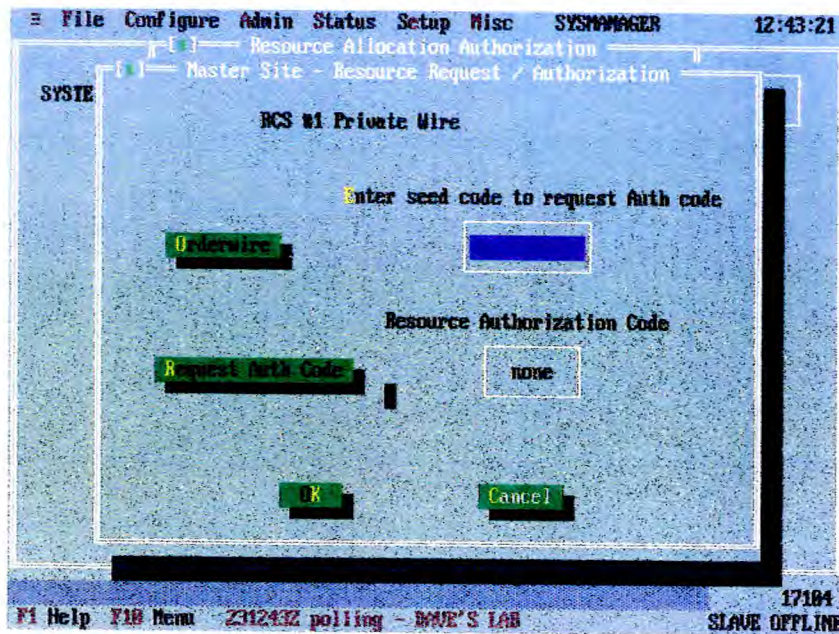
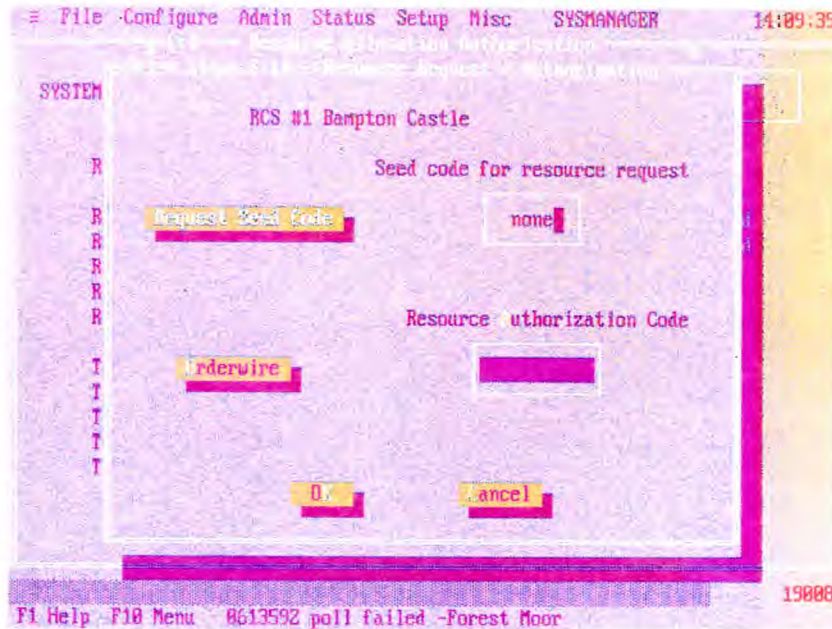

Fig 16
Fig 17
19 To reallocate a resource from Master to Slave involves the use of Orderwire communication and the "Resource Request/Authorization" screens (Fig 16 for Master; Fig 17 for Slave) obtained by selecting GRANT ALLOCATION on screen Fig 15. The procedure is as follows:
19.2 The Master selects the resource to be allocated, then Grant Allocation. The Master Site - Resource Request/Authorization screen will appear, refer to Fig 16.